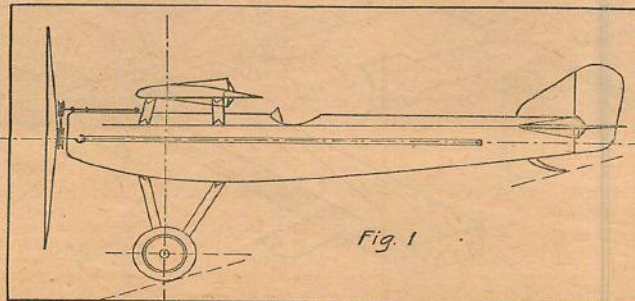

Fig. 1
Figure 1 shows a side view of a high-wing monoplane which is rubber driven. Its construction differs from the ordinary flying model.
As shown in Figure 3, a small wooden pulley (2) is fastened to the propeller shaft (1). This pulley is connected with an elastic band (3) with a pulley above it (4). The position of the pulleys can also be seen in Figure 1. Pulley (4) is attached to a long, fully threaded thin steel shaft (5). It can be seen then if the rubber motor (6) revolves propeller (7), the transmission (3) will also set shaft (5) in rotation.